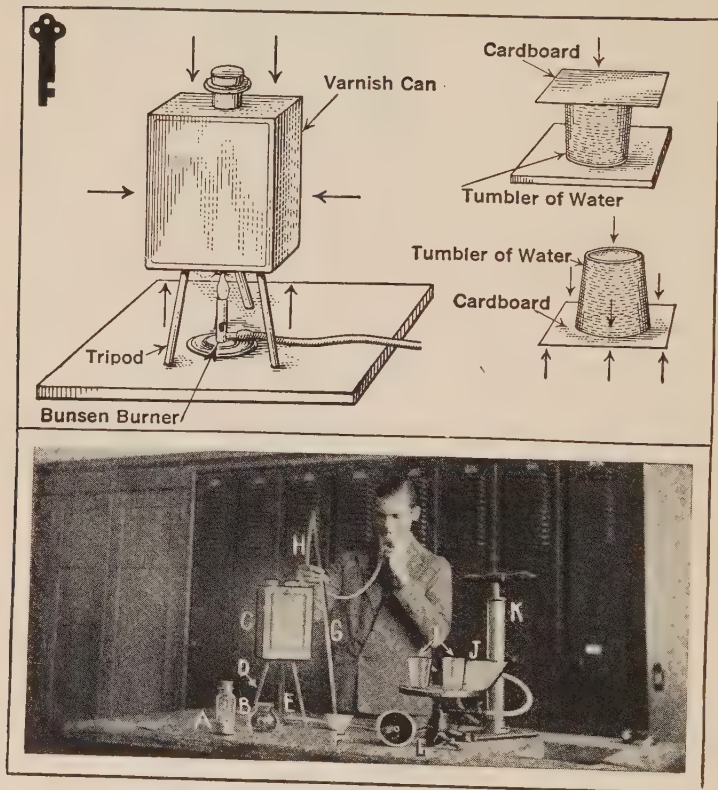

FIGURE 26. — (KEY) DEMONSTRATION 4.
A. *Materials:* A two-quart empty varnish can; a tight-fitting rubber stopper; iron tripod; Bunsen burner; and a pint of water (Fig. 26).
B. Materials: Glass tumbler of water and piece of smooth cardboard 6 inches square (Fig. 26).
C. Materials: A small bore glass tube about 30 inches long; a one-foot piece of rubber tubing to fit the glass tube; and mercury in a shallow dish (Fig. 26).
D. Materials: Palm glass; Magdeburg hemispheres; and exhaust pump (Fig. 26).